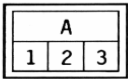

Fig 21-2
3.Inspection at compressor controller terminal (see Fig 21-2, Table21-8)